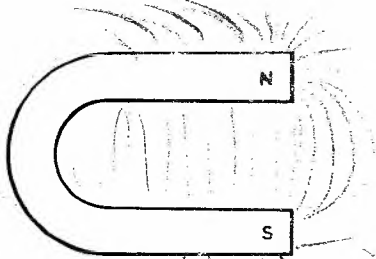

FIG. 4.
- (iv) Horseshoe magnet. Record the pattern on Fig. 4.